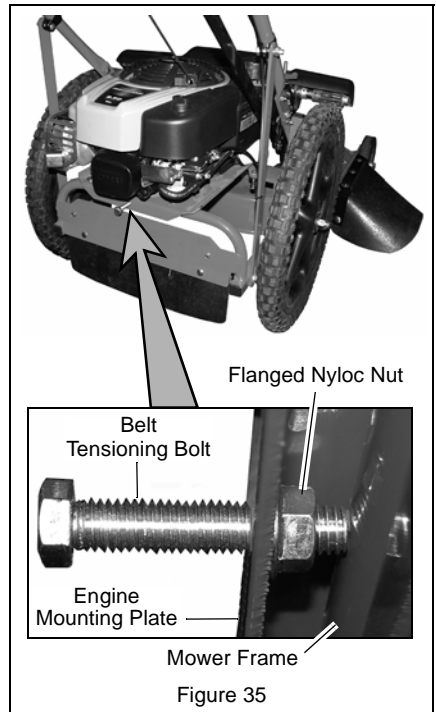

Figure 35
3. Hold the flanged nyloc nut (on the inside of the engine mounting plate) stationary with a wrench while turning the belt tensioning bolt counterclockwise. This will back the bolt away from the mower frame. See Figure 35.